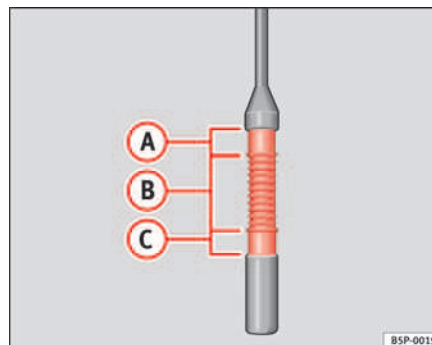

Fig. 154 Engine oil dipstick.
- Pull the dipstick out again and check the oil level ⇒ page 208, fig. 154.
If the oil level is in area ⇒ page 208, fig. 154 **A**, do not top up with oil.